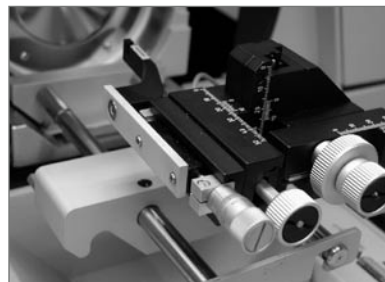

FIGURE 1
- 1) Slide the ADPC-PRO adapter onto the metal rail located on the left side of the XYZ stage (Figure 1).